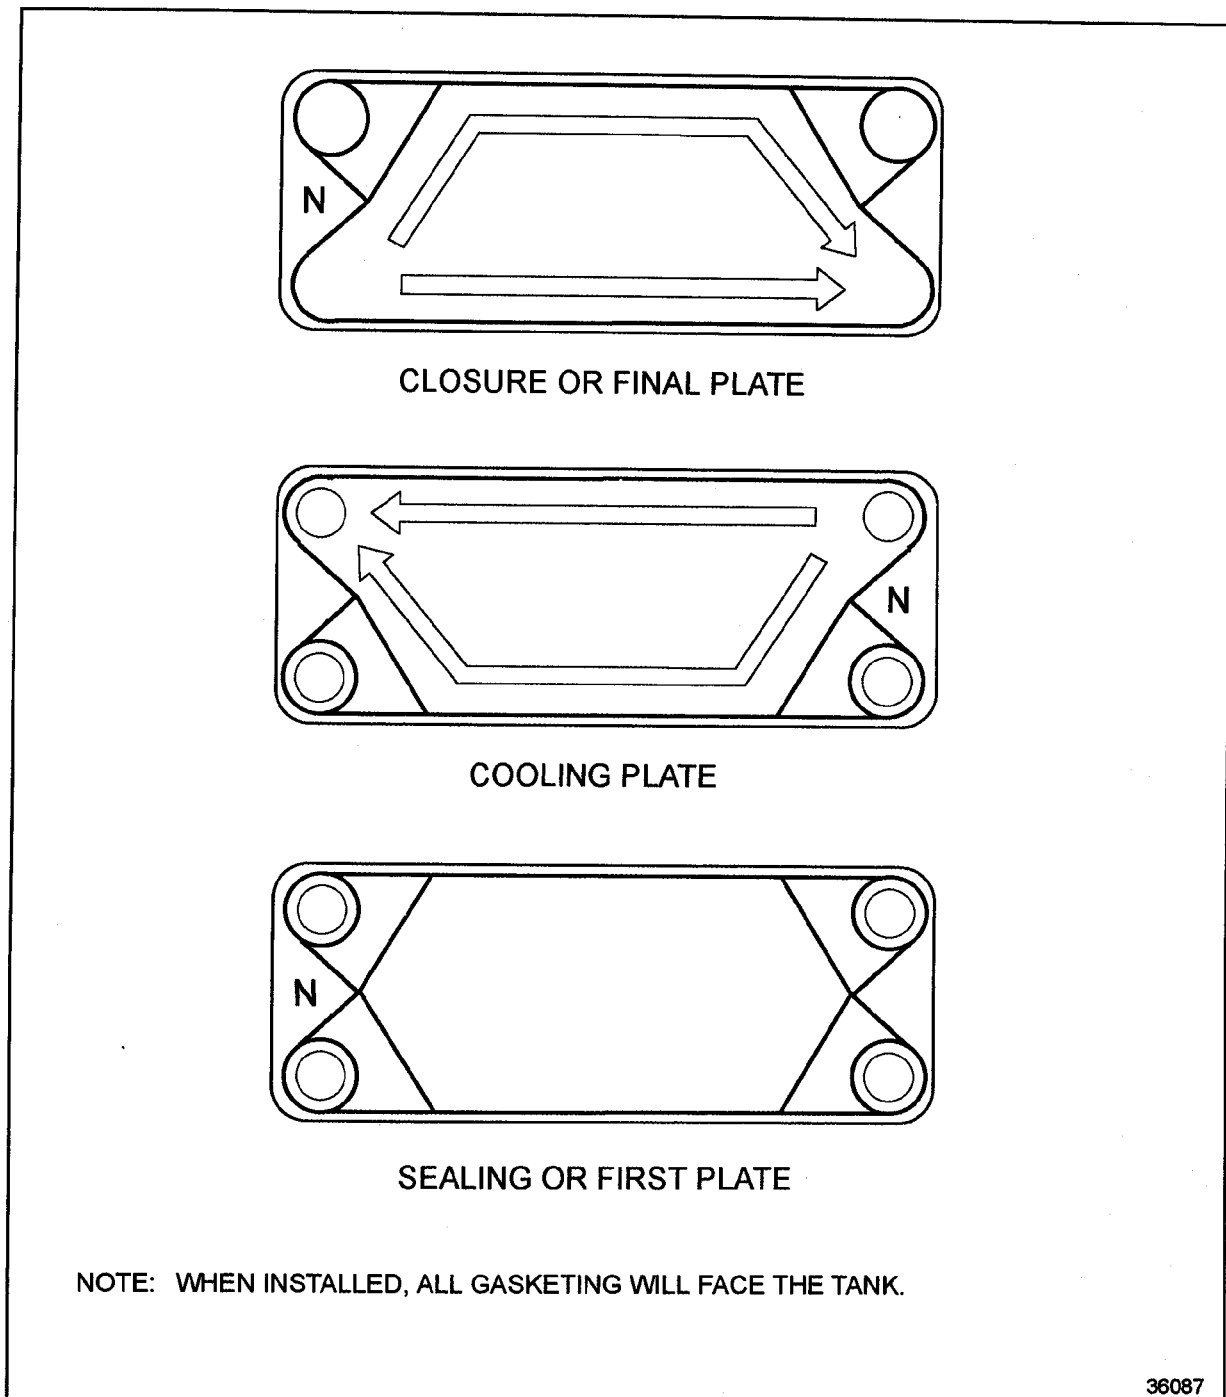

Figure 4-97 Gasket Faces and Orientation of Heat Exchanger Plates
3. See Figure 4-97 and install the first (sealing) plate, onto the center bolt/spacers. Install this plate with the gasketing side facing the tank and the letter "N" on the left-hand side as viewed from the rear of the heat exchanger tank.